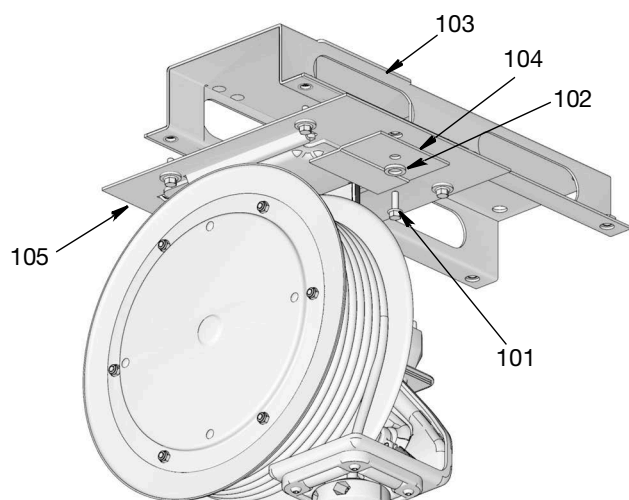

FIG. 6
2. Use the base channel (FIG. 6 - 103) to lay out the position of the mounting holes before you drill.
4. Install the base channel (103) and base plate (105) as shown in FIG. 6.
5. Slide cord reel into the reel base (105) and install the hold down plate (104), washer (102) and screw (101). Tighten the screw firmly (FIG. 6). **Be sure it is secure before lowering the lift truck.**
3. (FIG. 6, page 11): Slide cord reel into the reel base (105) and install the hold down plate (104), washer (102) and screw (101). Tighten the screw firmly.